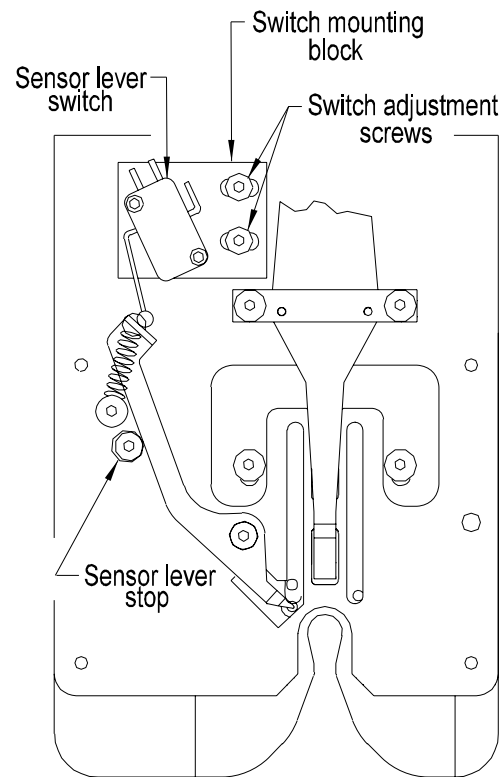

Figure 3.9
4. Slightly loosen the two button head screws in the switch mounting block (Figure 3.9).